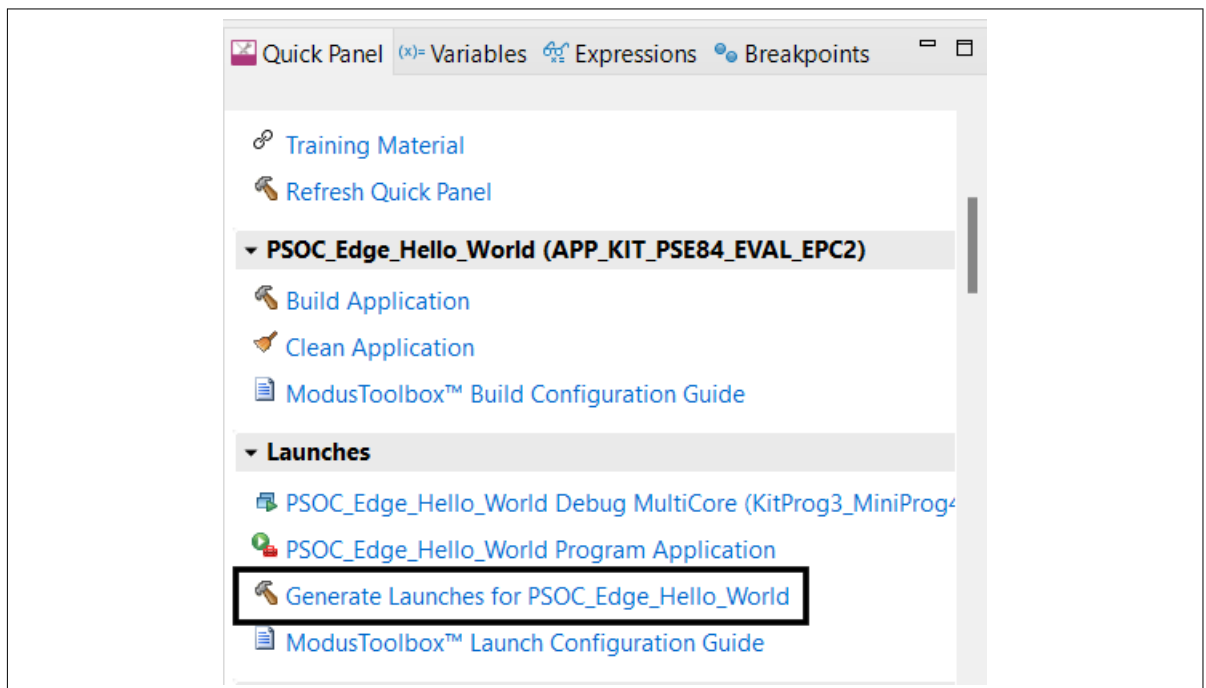

Figure 16 Generate launches
15. Next, in the ModusToolbox™ IDE, generate launches for your application as shown in Figure 16. Alternatively, you can execute a *make eclipse/make vscode* in the terminal to regenerate the launch configurations